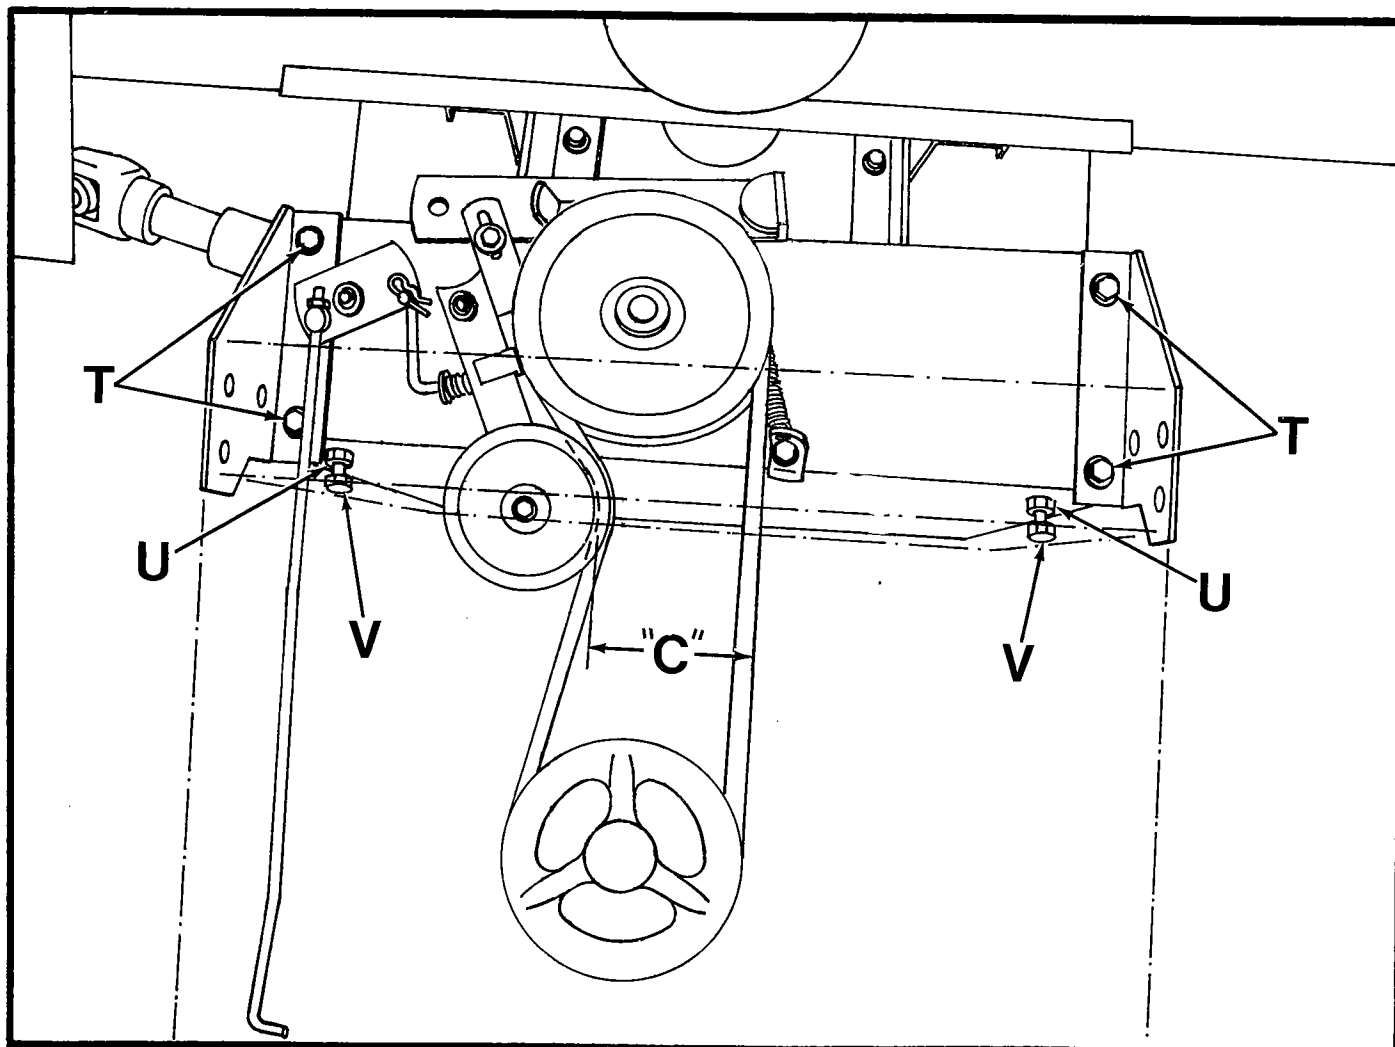

FIG. 8
4. Place unit in the engaged (ON) position.
5. When the drive v-belt is properly adjusted the distance over the v-belt strands at Point C should not exceed $4\frac{1}{2}$ ", but not less than 4". (See Fig. 8)
- A. Loosen four nuts (T). (See Fig. 8)
- B. Turn two nuts (U) counter-clockwise two full turns.
- C. Turn bolts (V) clockwise until distance over v-belt strands at Point C is from $4\frac{1}{2}$ " to 4".
- D. Retighten two nuts (U) and four nuts (T) to secure.
- C. Turn bolts (V) counter-clockwise until distance over v-belt strands at Point C is from $4\frac{1}{2}$ " to 4".